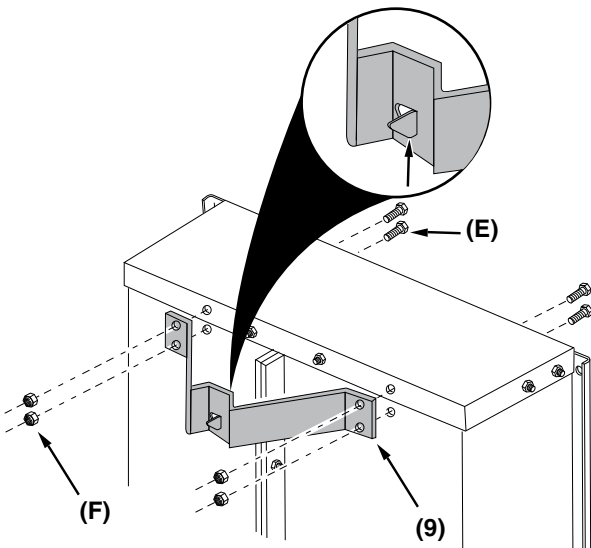

Figure 11
STEP 12 (SEE FIGURE 11): Attach the latch stand bracket (9) to the cart bed and front panel (8) using four 1/4" hex bolts (E) and 1/4" nylock nuts (F). Make sure to orient the tab on the latch stand bracket as shown in figure 11.